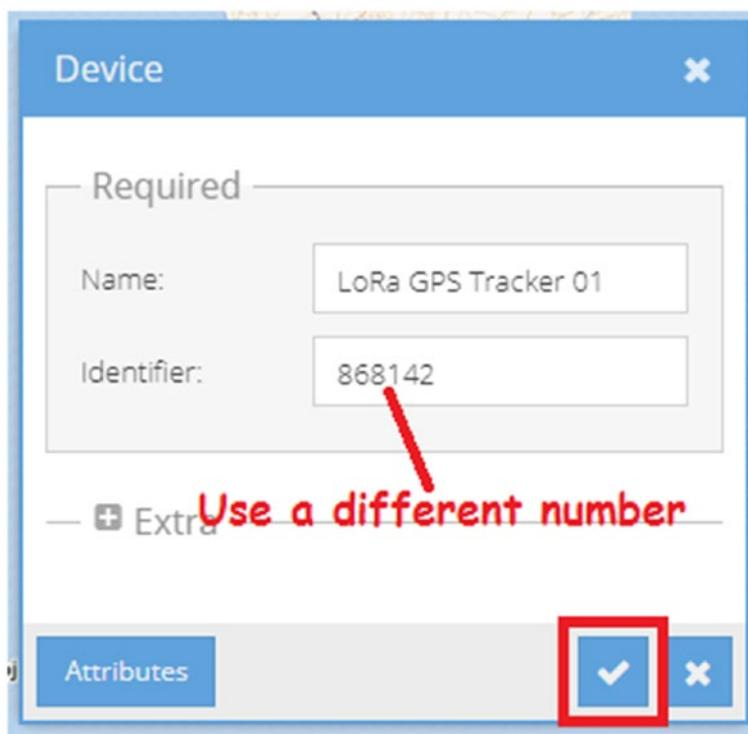

Figure 8-58. Adding a new device, step 2
5. In the Device dialog box, type in a name for your GPS tracker and a unique number for the identifier (Figure 8-58). The identifier is globally unique across all the Traccar accounts. Then click the Save button.